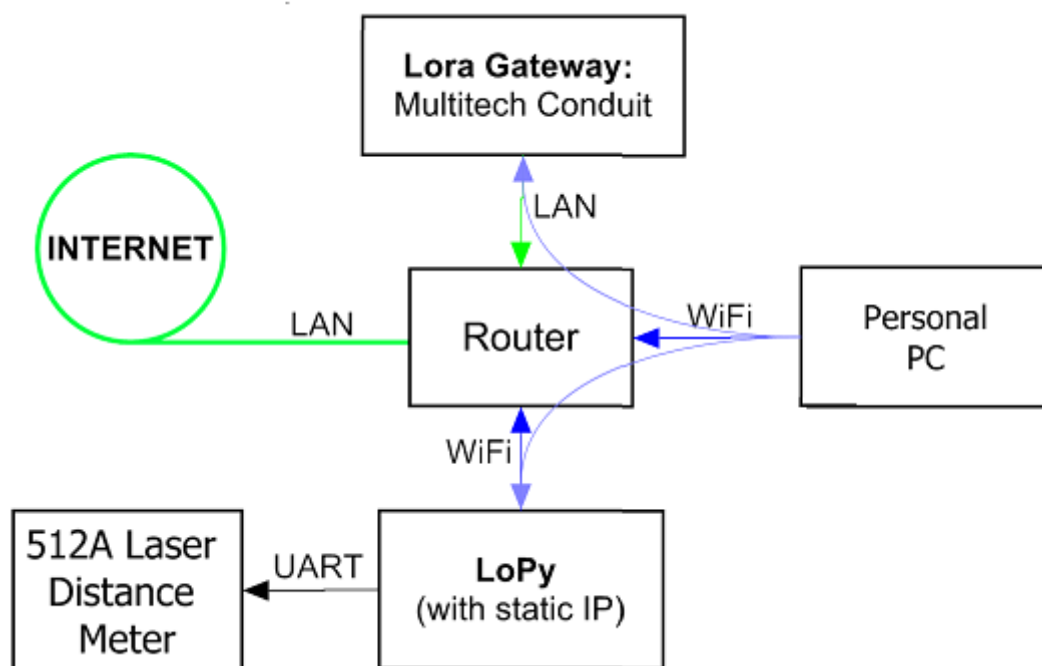

Figure 1: Developing Environment
- 1) If Conduit is connected directly to LAN-Port then change Conduit configuration from LAN to WAN (DHCP Client). If Conduit is connected to router over LAN as show in Figure 1, then keep Conduit configured to LAN (DHCP Client).